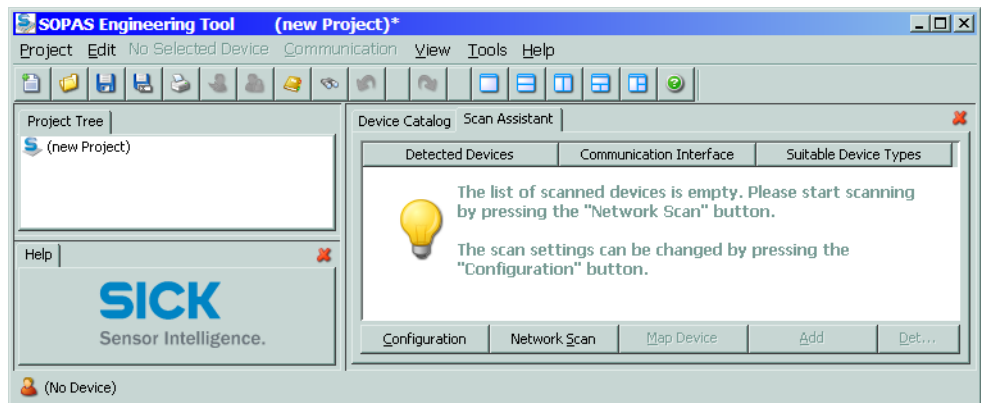

Fig. 4.3: Start menu
- ▶ Click "Configuration" in the Start menu (see Fig. 4.3) and select the "Standard Protocol" menu.